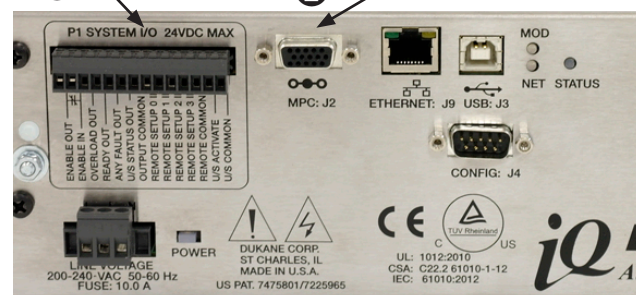

Figure 3-3 MPC Interface Connector
5. **P1 SYSTEM I/O Connector** - Wire the MPC control/input signals REMOTE SETUP 0-REMOTE SETUP 3 terminal block to the user-supplied automation control system - **B** in Figure 3-3.
6. **MPC INTERFACE** - Attach one end of the MPC Interface cable (Dukane # 200-1408-XX) to the MPC: J2 connector on the *iQ* Auto-Plus panel - **E** in Figure 3-3.